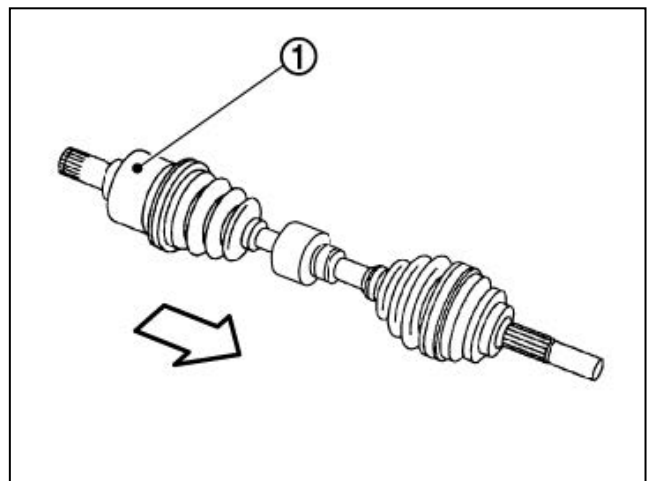

Figure 40
- In order to prevent damage to the differential side oil seals, place special tool (NI-52469-1) (A) on to the oil seal before inserting the drive shaft.
- To ensure the circular clip is properly engaged, pull the joint sub-assembly (1) in the direction shown in Figure 40, away from the transaxle assembly, while listening for a clicking sound.